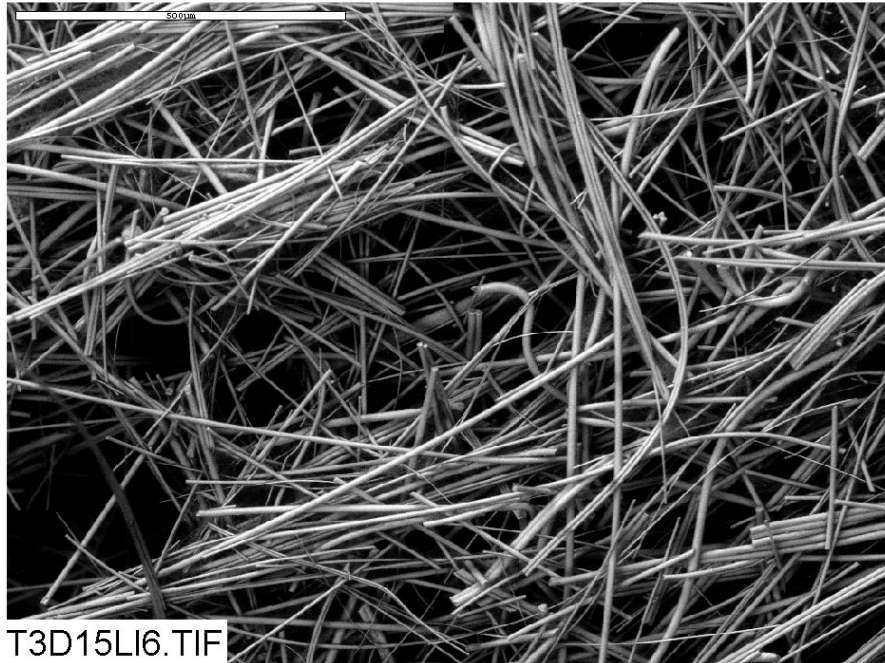

Figure B2-1. Environmental SEM image magnified 100 times for a Test #3, Day-15 low-flow interior fiberglass sample. (T3D15LI6)
- Figure B2-1. Environmental SEM image magnified 100 times for a Test #3, Day-15 low-flow interior fiberglass sample. (T3D15LI6) B2-5